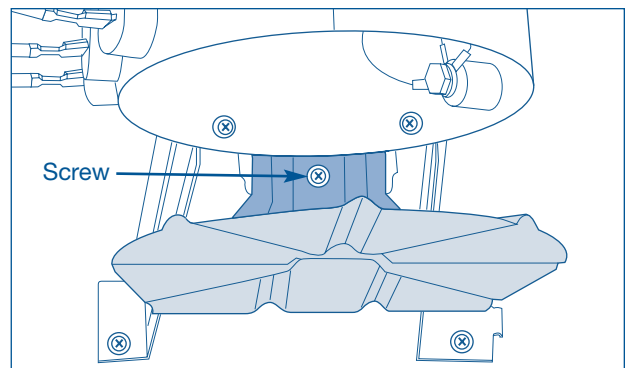

Figure 4-44.
2. Using a #2 square bit screwdriver, extract the screw securing the heat shield to the heater mounting bracket. (See Figure 4-44)